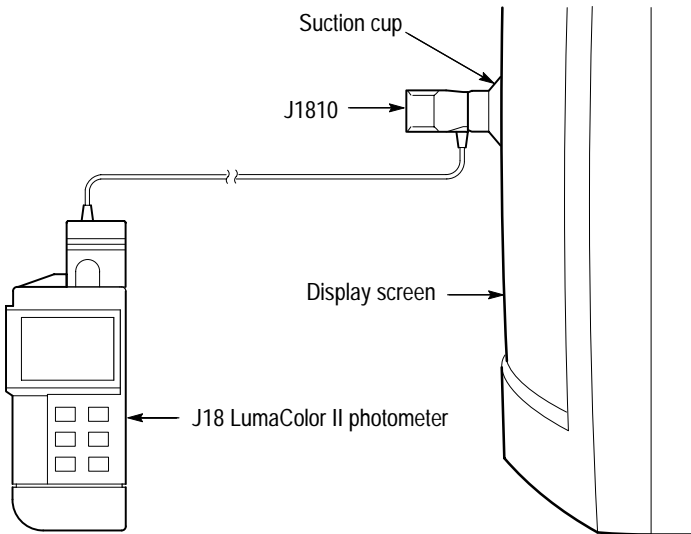

Figure 1–17: Setup for verification of the J18 with the J1810
3. Point the J1810 at the light source. When positioning the J1810, observe the following guidelines (refer to Figure 1–17):